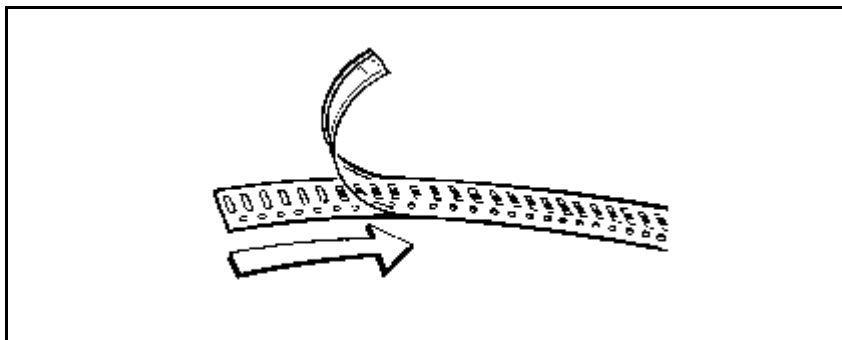

Figure 4-11. Stripping the cover tape
1. Strip off the cover tape approximately 2 – 3cm from the component tape. Make sure not to drop the exposed components, see Figure 4-11.